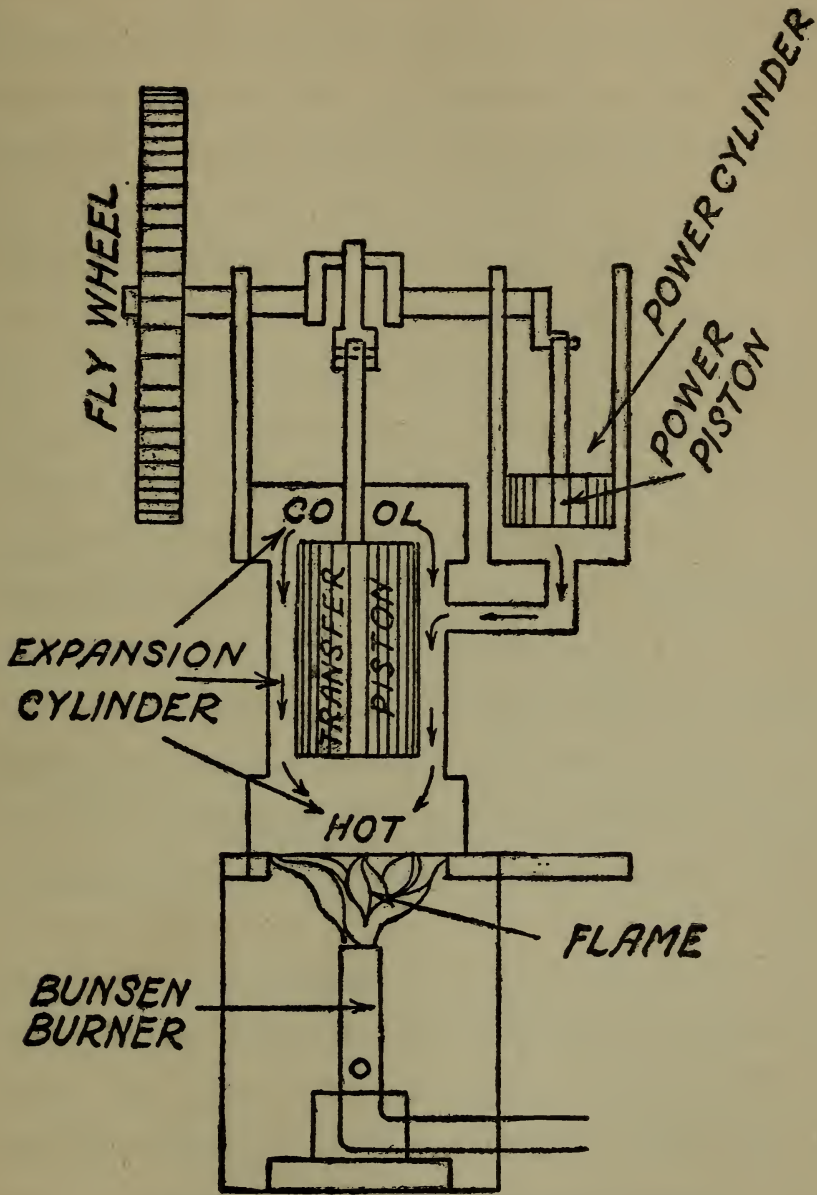

Fig. 70. How the Hot Air Engine Works
**How the Hot Air Engine Works.**—To the end that you may know without having to rack your brain too hard just how a hot air engine works I have drawn a simple diagram of it and this is shown in Fig. 70.